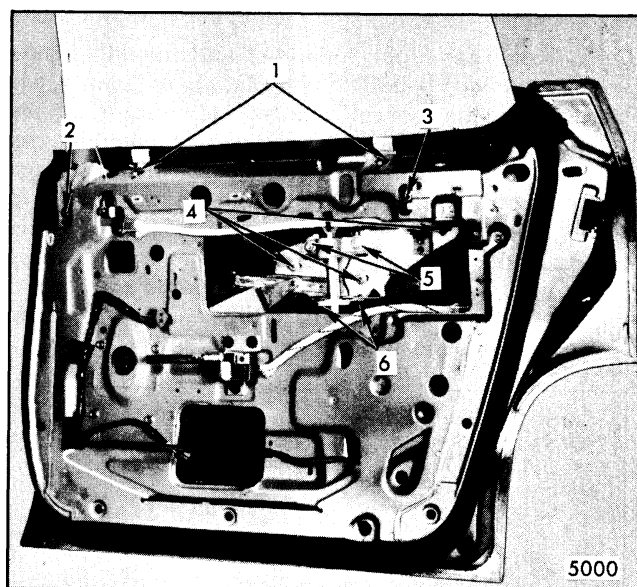
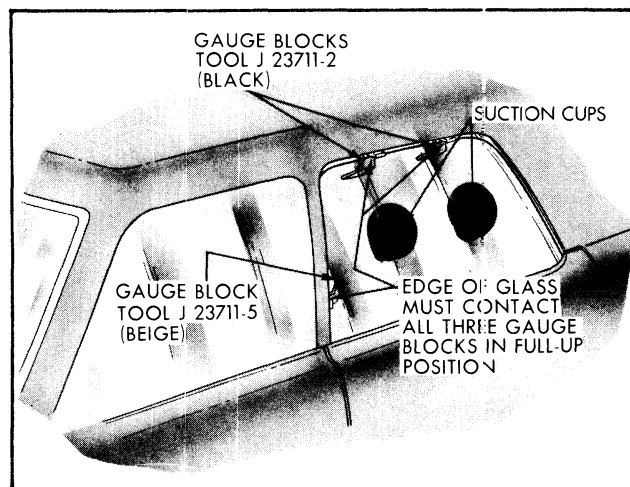

Fig. 5-136-Rear Door Window Removal and Adjustment - 6CB69 Styles
Fig. 5-138-Rear Door Window Alignment (Fore and Aft and Rotated "Cocked" Glass in Body Opening Adjustment)
- 1. WINDOW NOT PARALLEL WITH SIDE ROOF RAIL WEATHERSTRIP** - A rotated window condition (glass cocked in opening) can be corrected by loosening front and rear up-travel stops ("2" and "3", Fig. 5-136) and lower sash upper guide assembly ("5", Fig. 5-136 and raising or lowering front edge of glass in relation to rear edge of glass, as required, to parallel upper edge of glass with side roof rail weatherstrip. Then, tighten (torque to 72 inch pounds) lower sash upper guide attaching bolts and raise glass to establish proper contact with side roof rail weatherstrip. Torque up-travel stop bolts to 60 to 90 inch pounds.
- 2. WINDOW TOO FAR INBOARD OR OUTBOARD ALONG UPPER EDGE IN RELATION TO SIDE ROOF RAIL WEATHERSTRIP** - To adjust upper edge of window in or out in relation to side roof rail weatherstrip, loosen belt trim support retainers ("1", Fig. 5-136) and lower sash lower guide assembly ("6", Fig. 5-136) and position glass inboard or outboard as required. Outboard adjustment of lower guide moves upper edge of glass inboard. Conversely, inboard adjustment moves upper edge of glass outboard. With glass in a full-up position, move trim support retainers against inner surface of glass. Torque previously loosened attachments to 60 to 90 inch pounds.
front and rear up-travel stops ("2" and "3", Fig. 5-136) and operate window to desired position to establish proper contact with side roof rail weatherstrip. Torque up-travel stops to 60 to 90 inch pounds.
- 4. WINDOW TOO FAR FORWARD OR REARWARD IN BODY OPENING IN RELATION TO WEATHERSTRIPS** - To adjust window forward or rearward loosen lower sash channel guide plate attaching nuts ("4", Fig. 5-136) and reposition glass as necessary. The attaching locations in the guide plate are slotted to permit fore and aft adjustment of the glass. Torque attaching nuts to 60 to 90 inch pounds.
- 5. WINDOW MECHANISM BINDS WHEN OPERATING WINDOW ASSEMBLY** - Ease of window operation and window stability depend to a great extent on the adjustment of the window belt trim support retainers ("1", Fig. 5-136). These retainers should contact the glass throughout the full cycle of the window. Due to slight variations in glass contour, however, in some cases the strip may lose contact with the glass halfway through the cycle. This is permissible provided it does not result in loose glass. Contact should be sufficient to stabilize glass, but not restrict ease of window operation.
3. Lower rear door window and install gauge blocks, tool J-23711 -2 (Black), or equivalent into the side roof rail weatherstrip retainer above the upper front and rear corners of the glass as shown in Figure 5-138. Then, install gauge block, tool J-23711-5 (Beige), or equivalent into the center pillar retainer above the beltline. Raise door window and install glass suction cups on interior surface of glass to enable adjuster to shift glass when making adjustments with door in a closed position (Fig. 5-138).
4. Working from inside the body, with the door in the closed position, loosen front and rear up-travel stops ("2" and "3", Fig. 5-136) and belt trim support retainers ("1", Fig. 5-136).
If upper and forward edge of glass contact all three gauge blocks simultaneously (as shown in Fig. 5-138), proceed with Step 6. If, however, upper and forward edge of glass does not contact all three blocks simultaneously, completely loosen lower sash channel guide plate ("4", Fig. 5-136) and lower sash upper guide assembly "5", Fig. 5-136) and manipulate the glass by hand until upper and forward edge of glass contacts all three gauge blocks in the full-up position (as shown in Fig. 5-138). Tighten guide plate and upper guide assembly attaching bolts.
6. Loosen lower sash lower guide assembly ("6", Fig. 5-136). Apply firm outboard pressure against the bottom of the lower sash guide plate assembly to remove slack in the system and to hold the upper inner edge of glass inboard against outer edge of gauge blocks. Then, tighten lower guide assembly attaching bolts.
7. With the glass in the full-up position against the upper gauge blocks as shown in Figure 5-138, tighten adjustable up- travel stops. Adjust belt trim support retainers for proper tension against glass.
2. Loosen belt trim support retainer attachments ("1", Fig. 5-136) and remove front and rear up-travel stops ("2 and 3", Fig. 5-136).
3. Remove lower sash guide plate assembly to glass attaching stud nuts ("4", Fig. 5-136). Tilt upper edge of glass inboard to disengage glass from guide plate, then remove the window from the door by lifting straight-up.